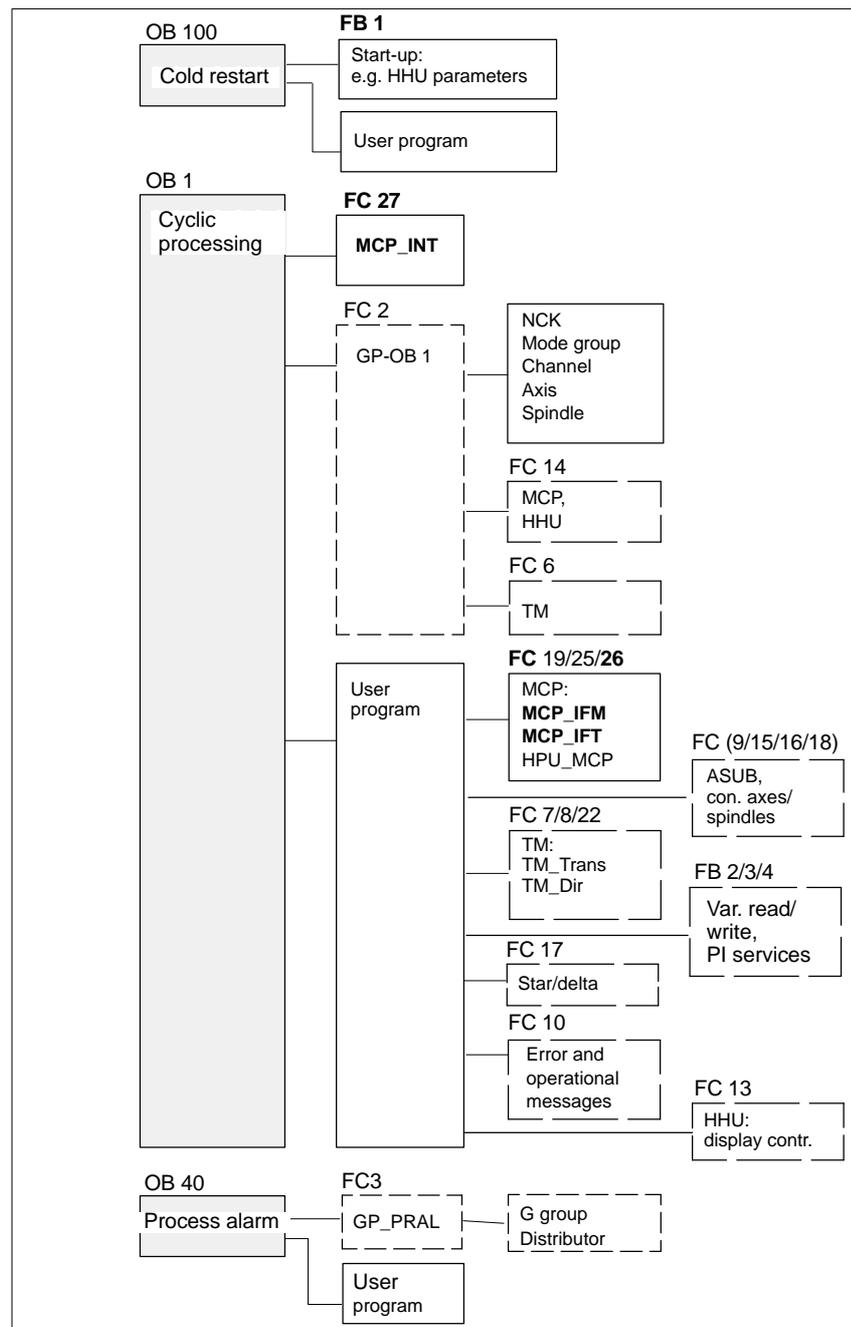

Fig. 7-20 Structure of the PLC program
The user (machine manufacturer) must call the relevant part of the basic program in the OBs 1, 40 and 100, as shown in Fig. 7-20.
4. Insert call of function block FC 26 into the cyclic parts of the PLC program (see Fig. 7-20, Page 7-200).